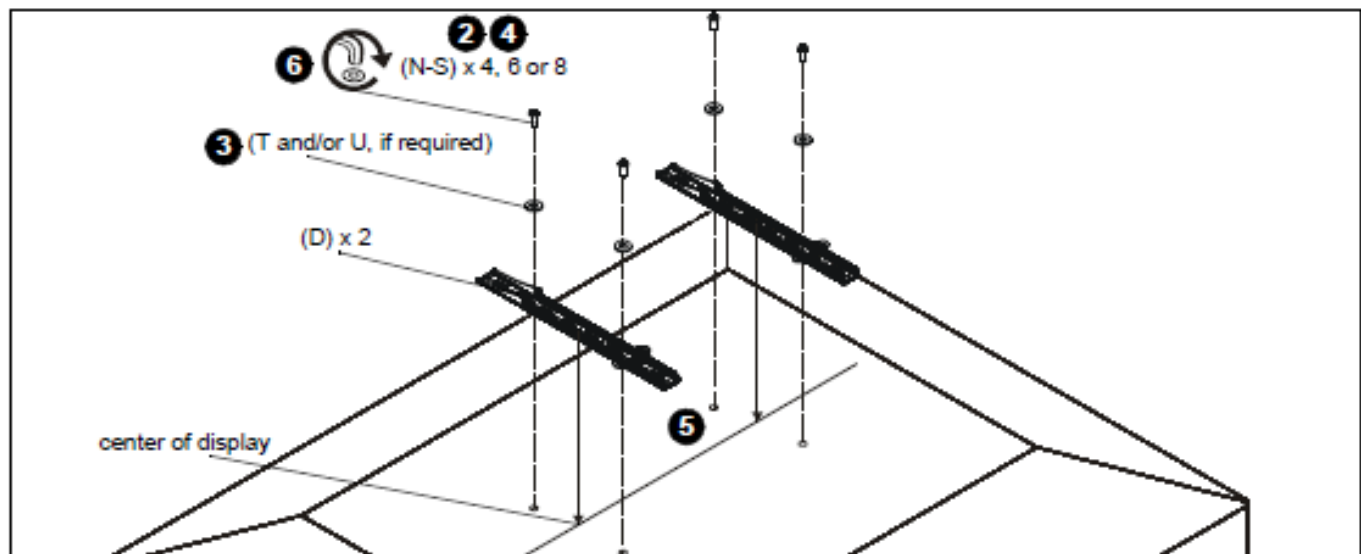

Figure 6
- Select screw diameter by examining hardware (M-R) (8mm, 6mm, 5mm, or 4mm) and comparing with mounting holes on display. (See Figure 6)
- Using your hand, insert M4x12mm button head security screw (N) through vertical interface bracket (D), washers (T and U), into display mounting hole. Do NOT thread screw into hole at this time.
- Proper screw length requires base of screw head to protrude above flat washer a distance equal to or greater than the screw diameter. If screw length is inadequate, use M4x16mm screw (P). Select shortest screw which will protrude the required distance.
5. Place vertical interface brackets (D) on display, ensuring: (See Figure 6)
- Center of brackets (D) are as close to the center of the back of display as possible after being installed. Center of bracket is indicated by the diamond-shaped hole.
6. Install selected screws through washers (T and/or U, if required) vertical interface bracket (D) and into display mounting holes. (See Figure 6)